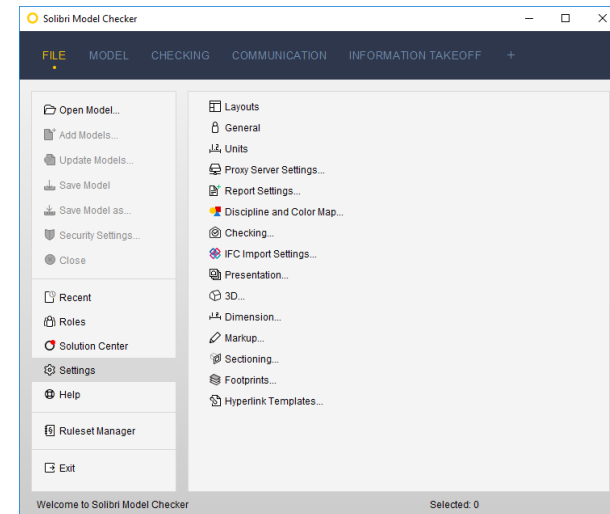

Figure 4: File Layout and Settings
- 2) Next, select **Settings** from the menu on the left (see Figure 4).